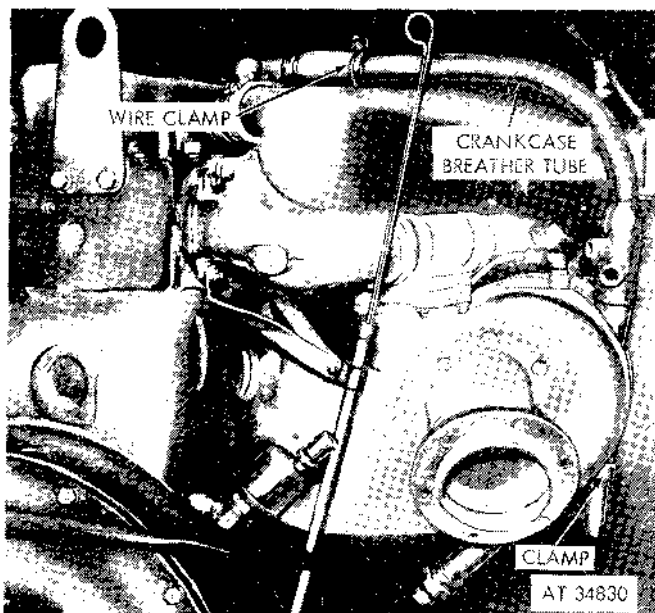

Figure 2-64. Removing crankcase breather tube—multifuel models.
(1) Loosen the clamp that secures the hose to the breather tube (fig. 2-64).
(2) Remove the nut, lockwasher, flat washer, and capscrew securing the tube clamp to the bracket (fig. 2-64).
(3) Pull the breather tube and clamp assembly from the engine.